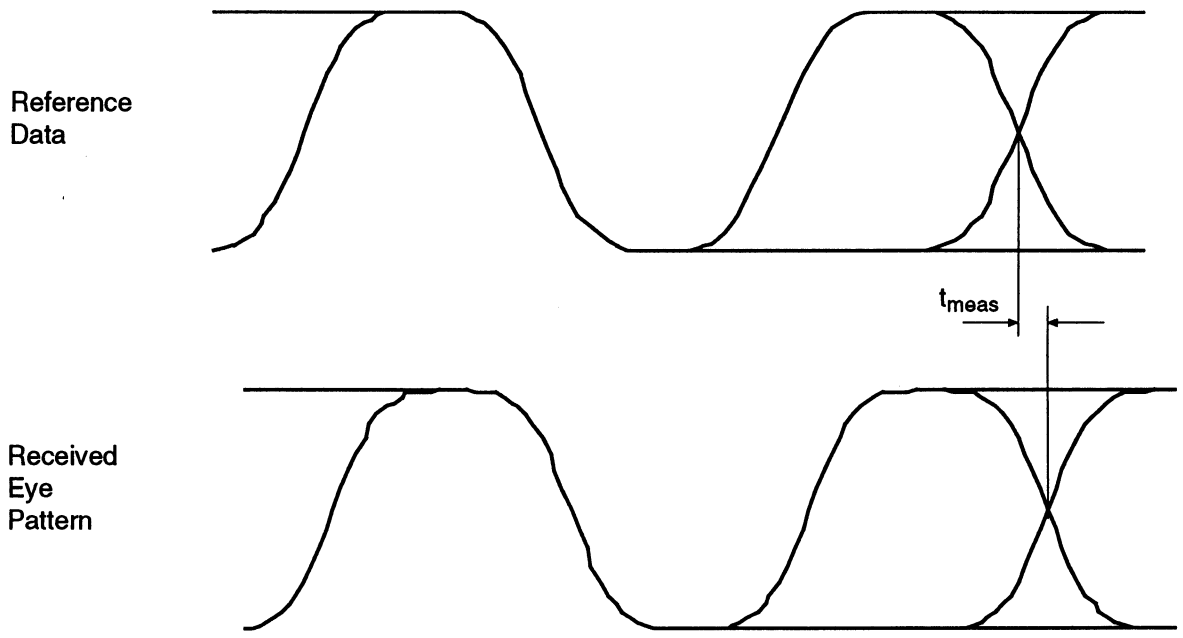

Figure 36. Two-Level Time Delay Measurement #3
- Step 30. Adjust the scope timebase so you can observe one "X" (zero cross) on each scope trace. See Figure 36. The scope timebase should be set to about 20 $\mu\text{s}/\text{div}$.
- Step 31. Adjust the delay in the reference until the "Xs" (zero crosses) of the two scope traces are in perfect alignment (within 2.6 μs of one another). Refer to Figure 36.